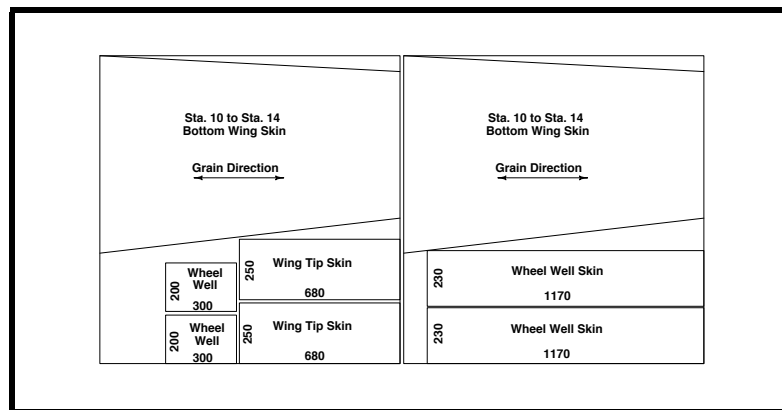

Figure 50
- ❑ Use two 50"x50" sheets of 1.5mm birch plywood as shown in Figure 50. Cut the wheel well and wing tip skins and then cut the wing skins to fit the aircraft.